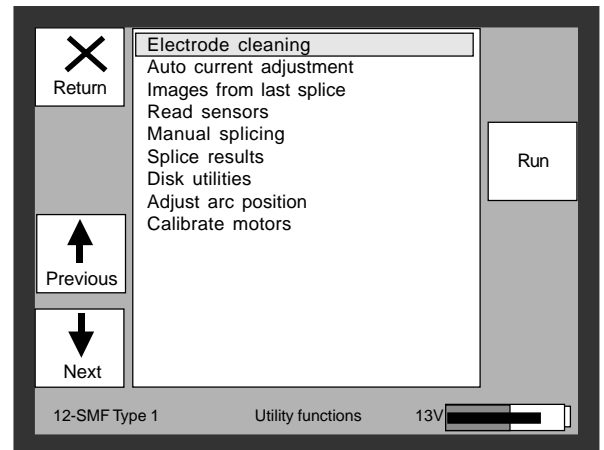

Fig. 60 - Utilities menu
It is now possible for the user to carry out a number of utilities as shown in fig. 60.
3. Select "Auto current adjustment" utility from the Utilities menu (see fig. 60).